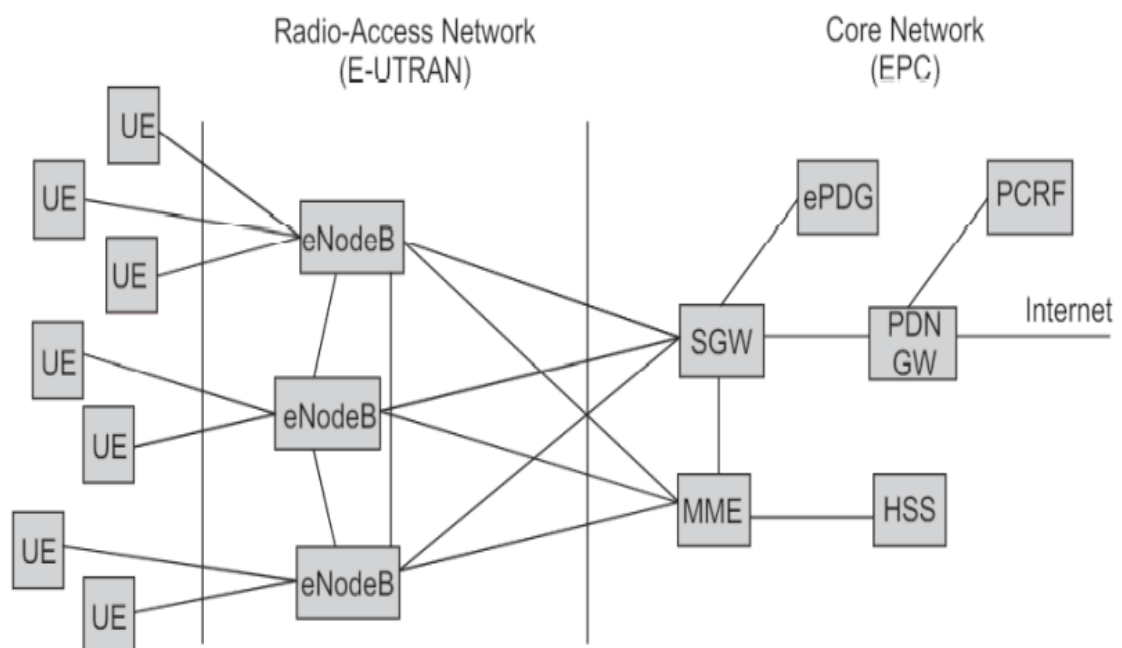

Fig 5.13 LTE system architecture
- Figure 5.13 gives a high-level description of the LTE-A network architecture, Readers who are more familiar with 2G/3G networks may notice the simplicity of the LTE-A architecture.